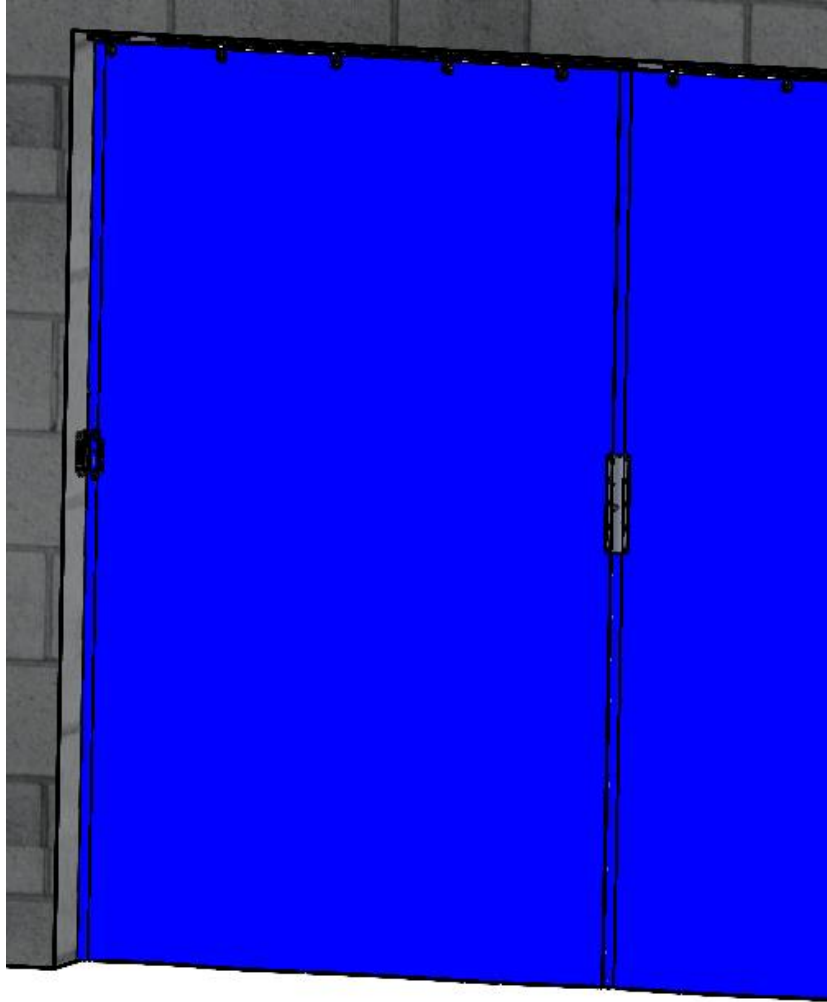

Figure 8 Stretch and Plumb Curtain, Mark and Drill Floor
2. At the Cam Lock location (vertical pole), grasp the pole and pull the curtain taut to the Slot Lock. (Figure 8 Stretch and Plumb Curtain, Mark and Drill Floor)
3. Ensure that the Curtain is plumb front to back, then mark the pole location on the floor. (Figure 8 Stretch and Plumb Curtain, Mark and Drill Floor)
4. Drill a $\frac{3}{4}$ " hole about 1" deep into the floor at this location. (Figure 8 Stretch and Plumb Curtain, Mark and Drill Floor)